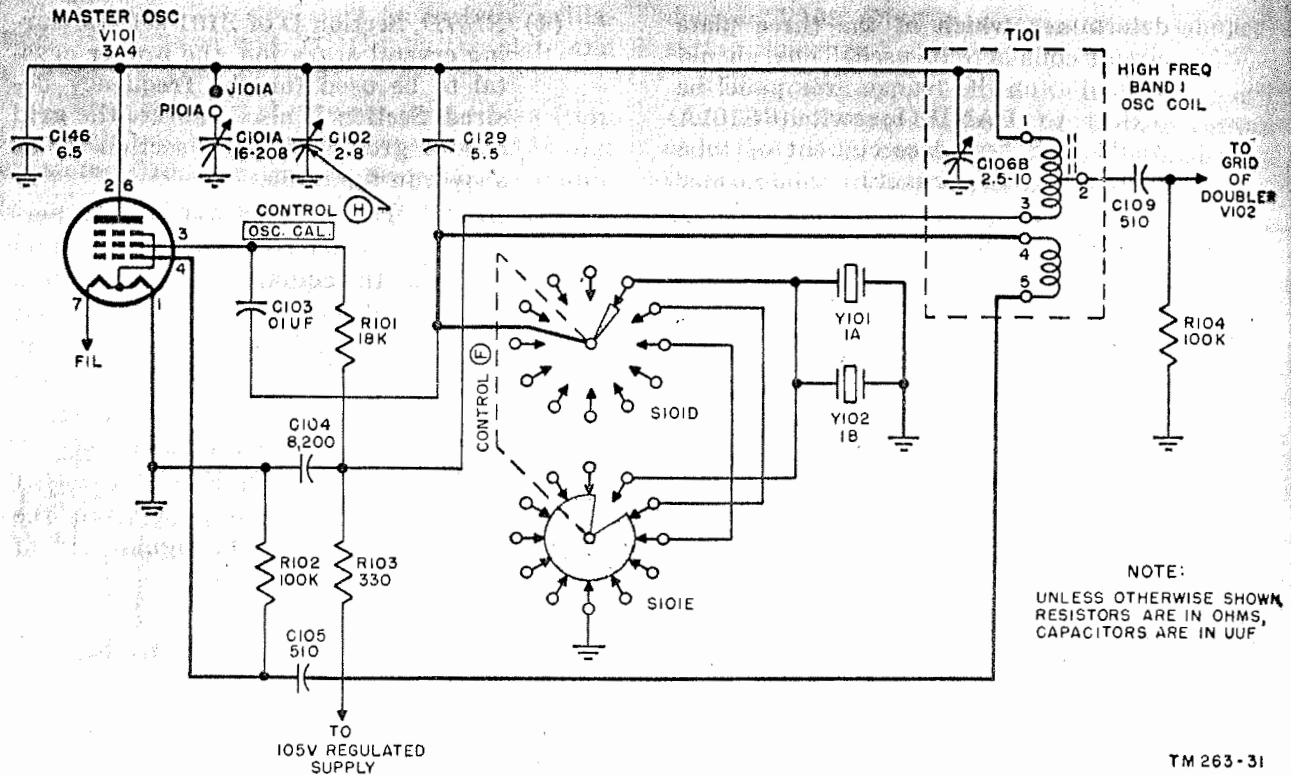

Figure 71. Transmitter master oscillator (crystal-controlled), switch sections S101D and S101E, simplified schematic.
a. When control © is at one of the XTAL positions, the circuit then functions as a crystal oscillator. Crystal 1A is placed in the grid circuit by means of switches S101D and S101E (fig. 71). Switch S101E disconnects from